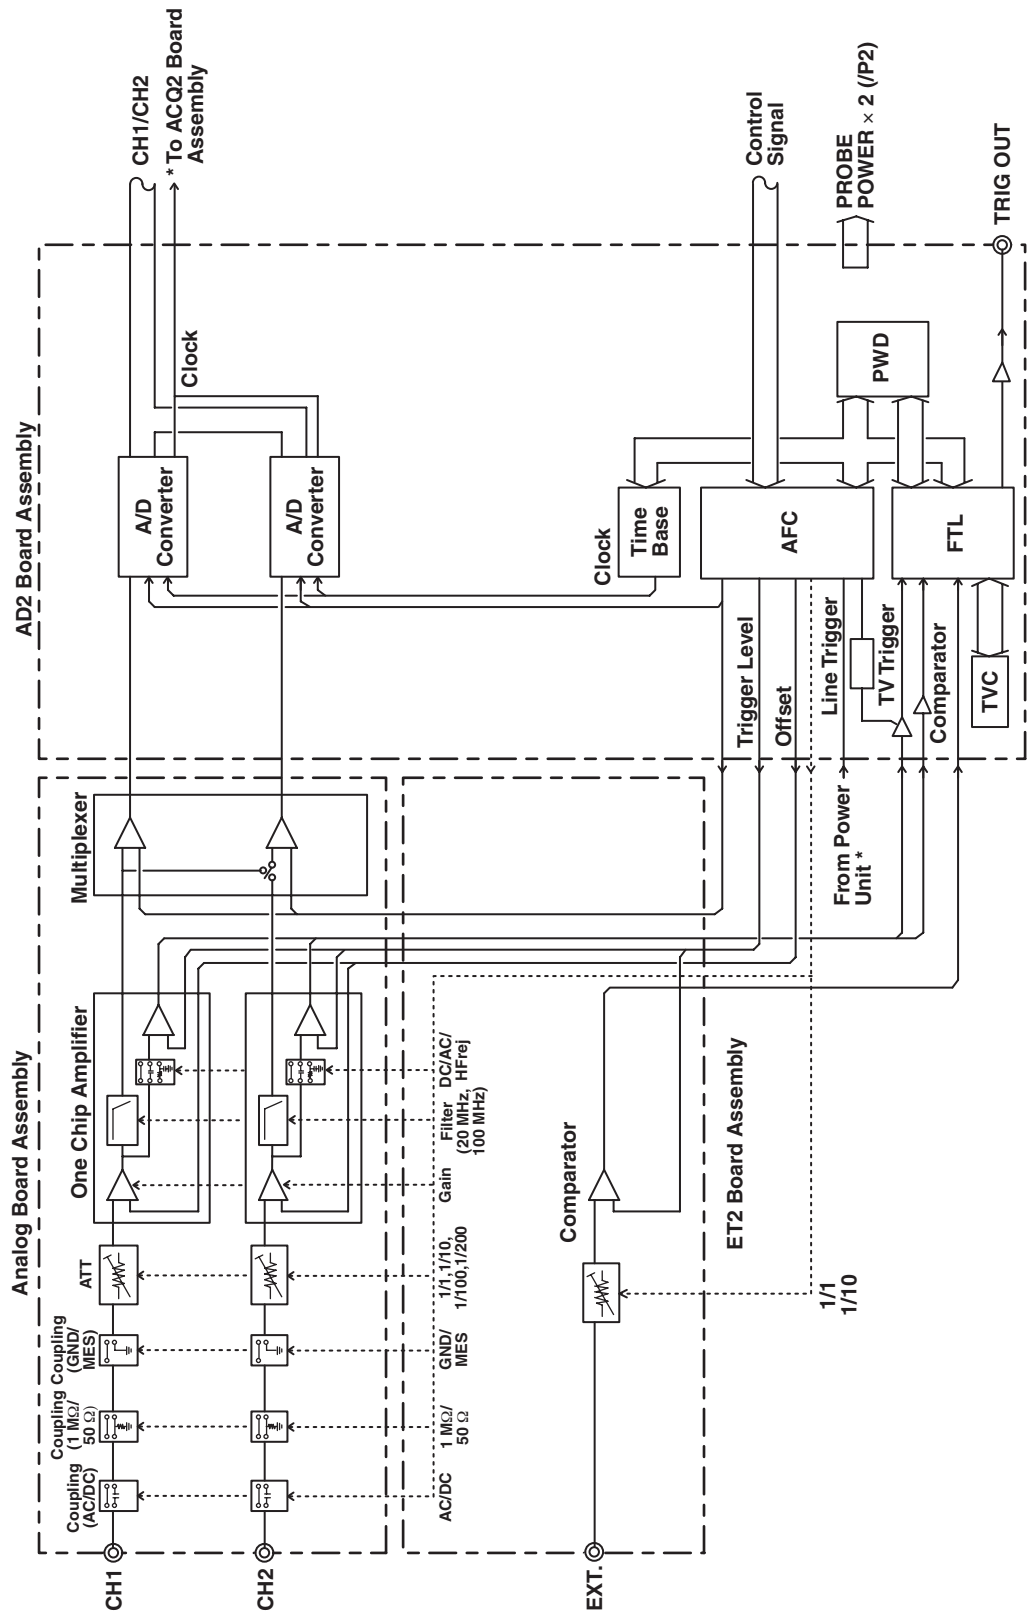
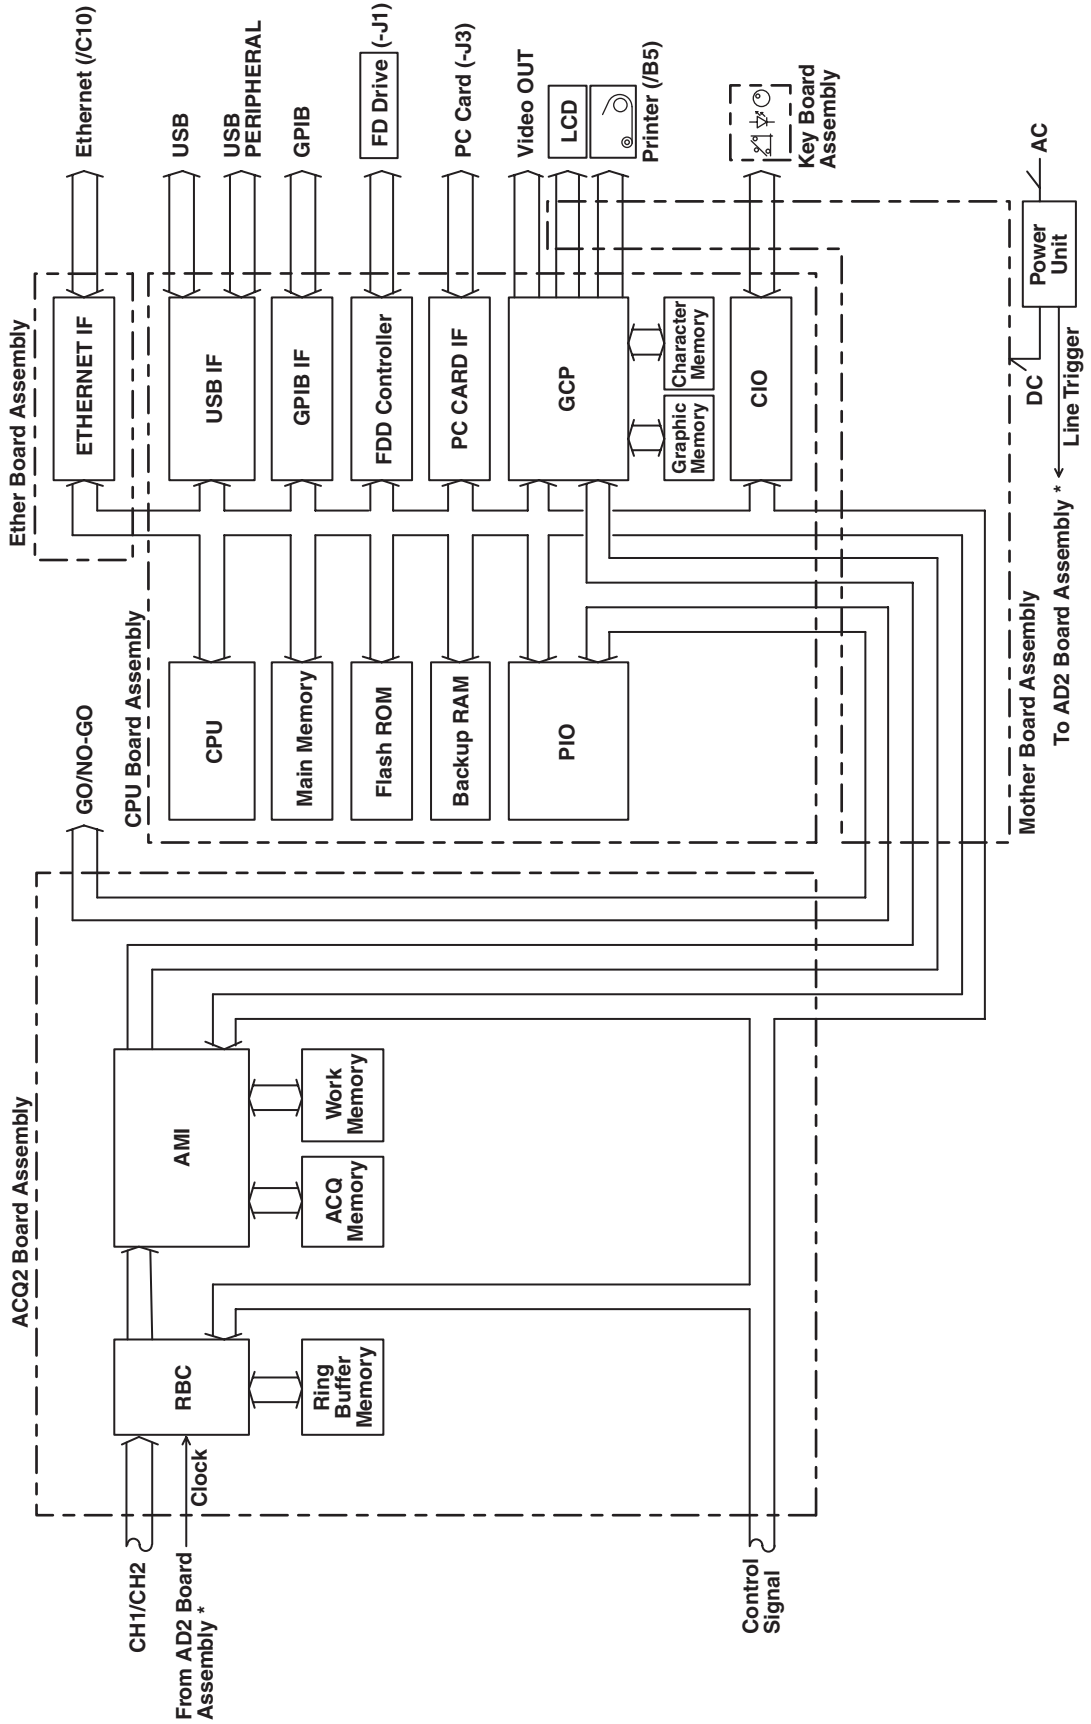
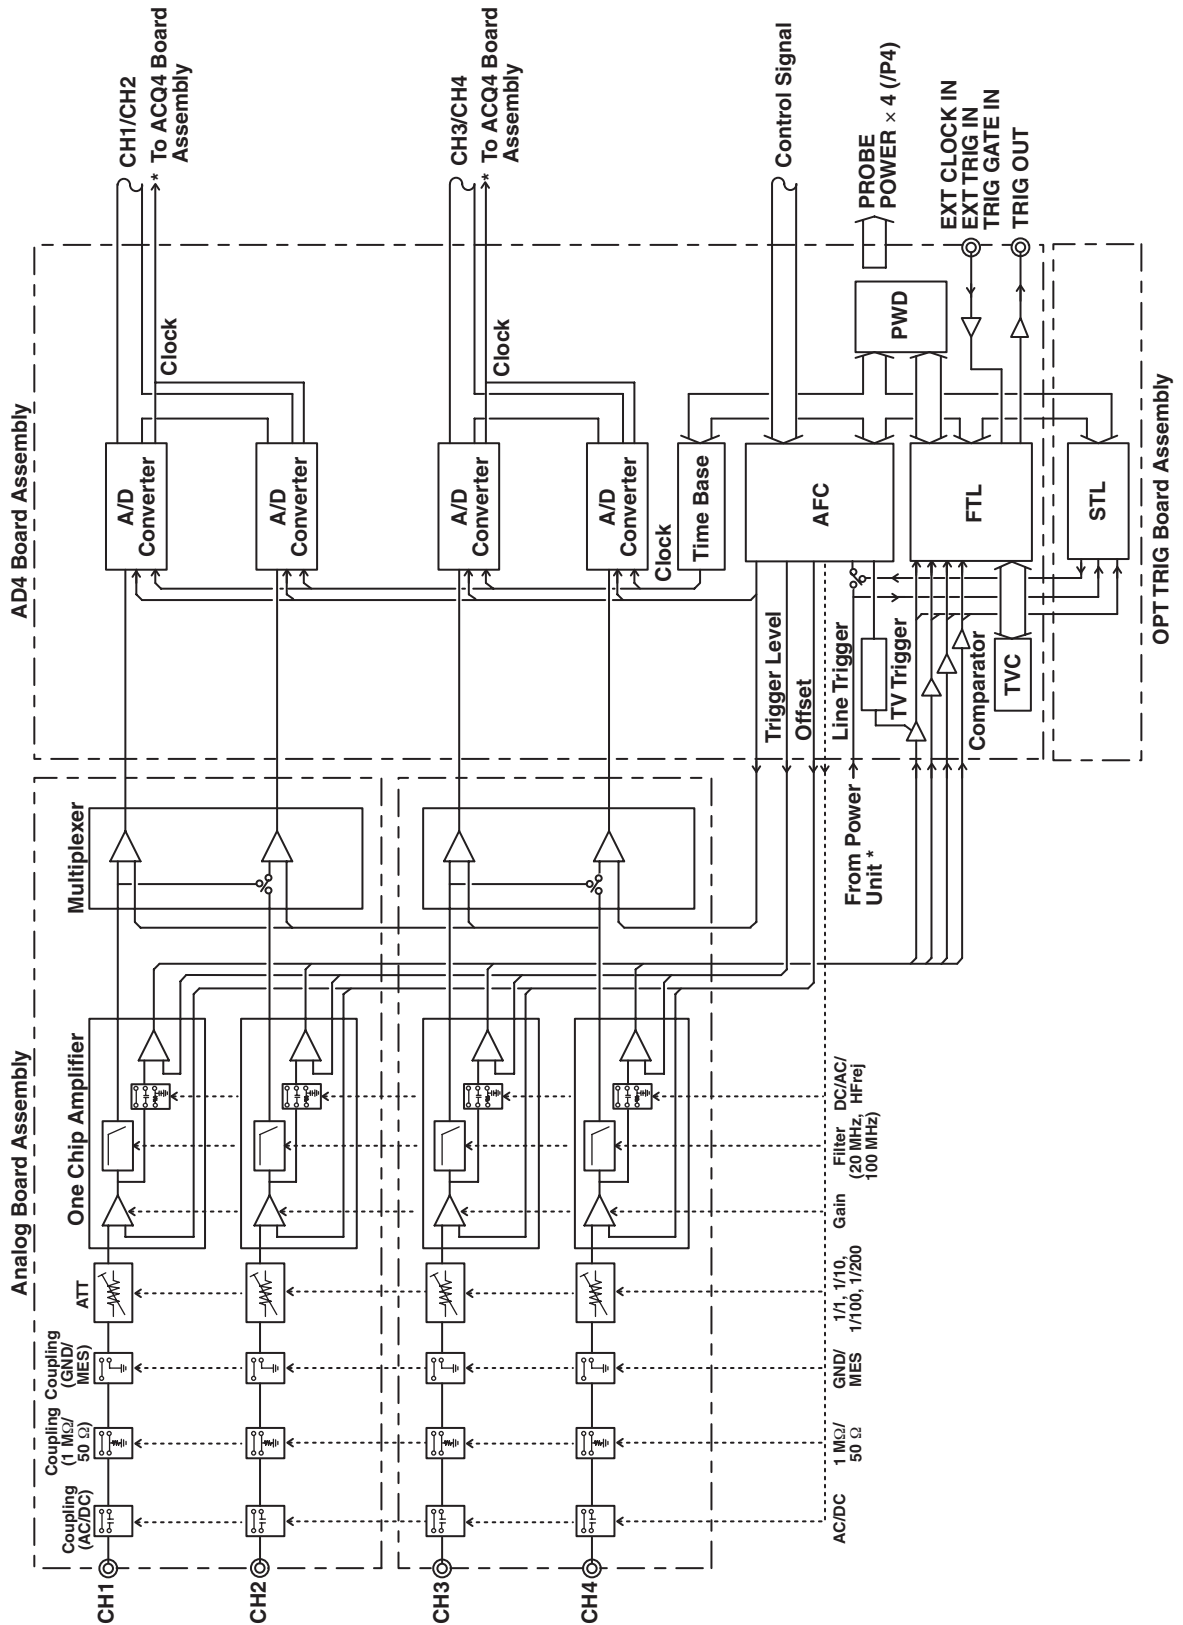
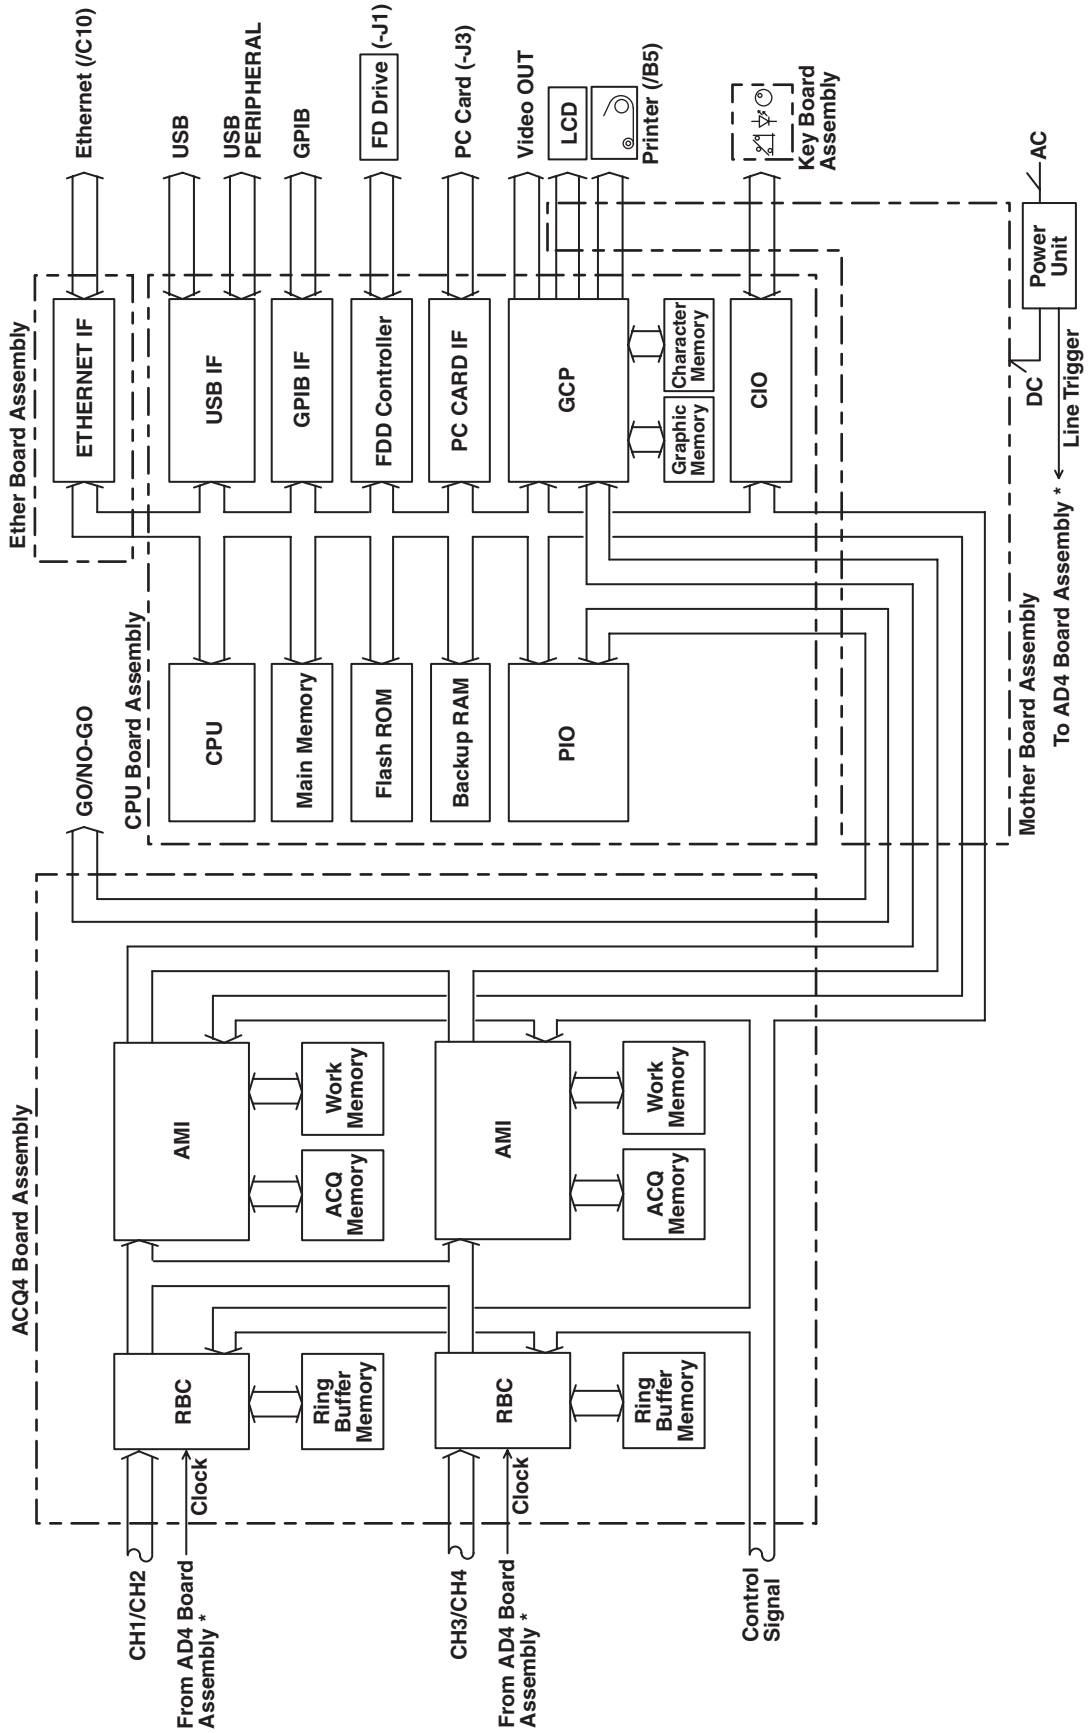

Figure 1.1 Block Diagram (Analog Section) of the DL1720E
Figure 1.2 Block Diagram (Digital Section) of the DL1720E
Figure 1.3 Block Diagram (Analog Section) of the DL1740E/DL1740EL
Figure 1.4 Block Diagram (Digital Section) of the DL1740E/DL1740EL
The block diagrams of the DL1720E are shown in figure 1.1 and figure 1.2. The block diagrams of the DL1740E/DL1740EL are shown in figure 1.3 and figure 1.4. Figure 1.1 and figure 1.3 are block diagrams of the circuit from the analog input to the A/D conversion circuit and trigger circuit including the attenuator, one-chip amplifier, analog multiplexer, time base circuit, A/D converter, trigger comparator, and trigger circuit. Figure 1.2 and figure 1.4 are block diagrams of (1) the data processing section which processes the acquired data and displays the waveform, (2) the CPU, and (3) the peripheral circuitry.
As indicated in figure 1.1 or figure 1.3, the vertical sensitivity from 10 V/div to 2 mV/div is achieved by switching the gain on the attenuator and the one-chip amplifier IC.